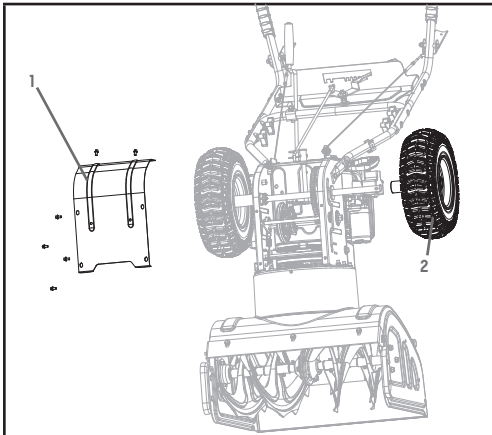

Figure 27A
2. Remove the base frame cover (1) from the underside of the snowblower by removing the six M6 × 16 screws which secure it (Fig 27A/B).